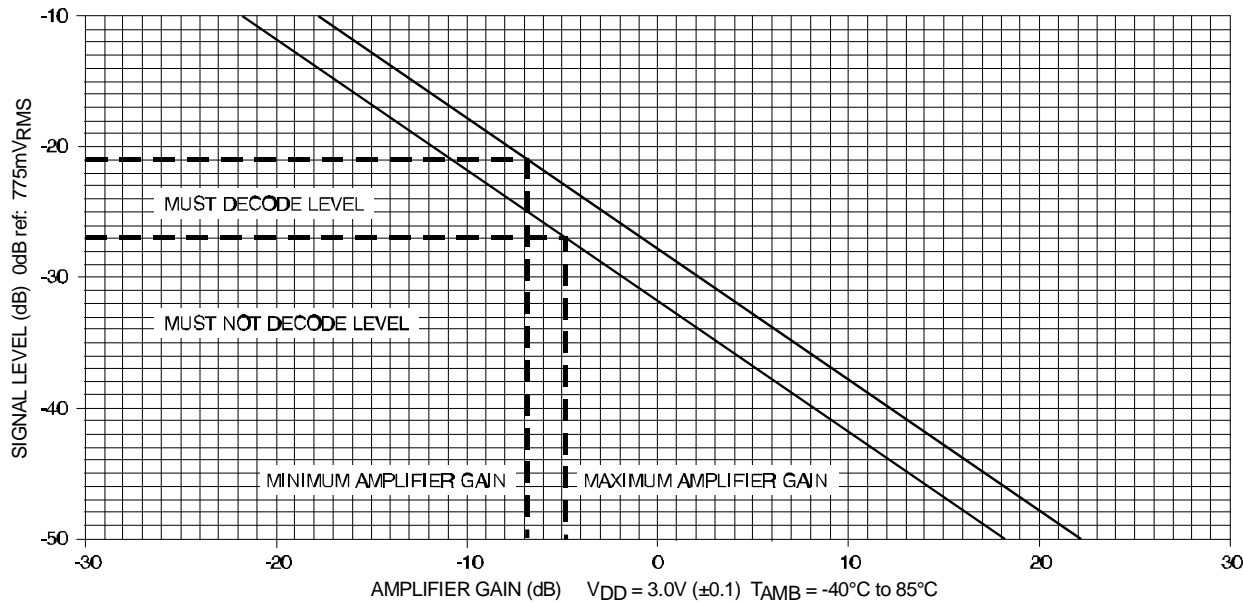
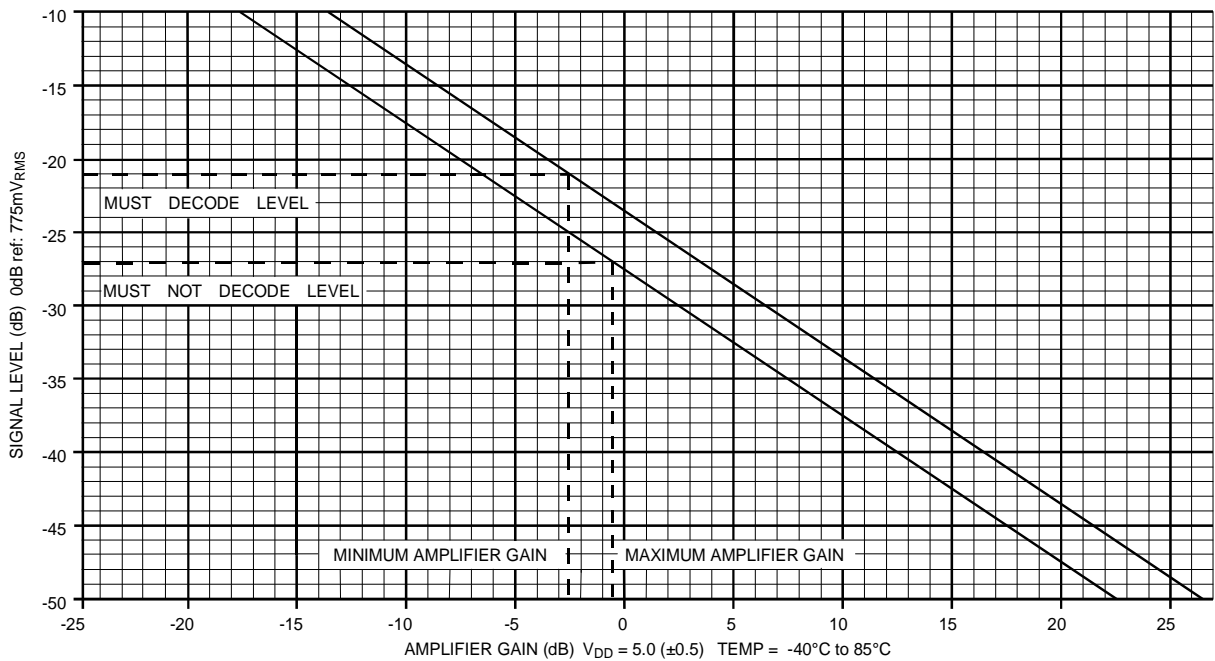

Figure 4: Input Gain Calculation Graph for $V_{\text{DD}} = 3.0\text{V}$
Figure 5: Input Gain Calculation Graph for $V_{\text{DD}} = 5.0\text{V}$
With reference to the graphs in Figure 4 and Figure 5, the following steps will assist in the determination of the required gain/attenuation.
1. Draw two horizontal lines from the Y-axis [Signal Level (dB)] in Figure 4 and Figure 5. The upper line represents the required 'Must' decode level. The lower line represents the required 'Must-Not' decode level
Component tolerances should not move the gain-figure outside these limits. The graphs Figure 4 and Figure 5 are for the calculation of input gain components for a CMX631A using a V_{DD} of 3.0 (± 0.1) or V_{DD} of 5.0 (± 0.5).